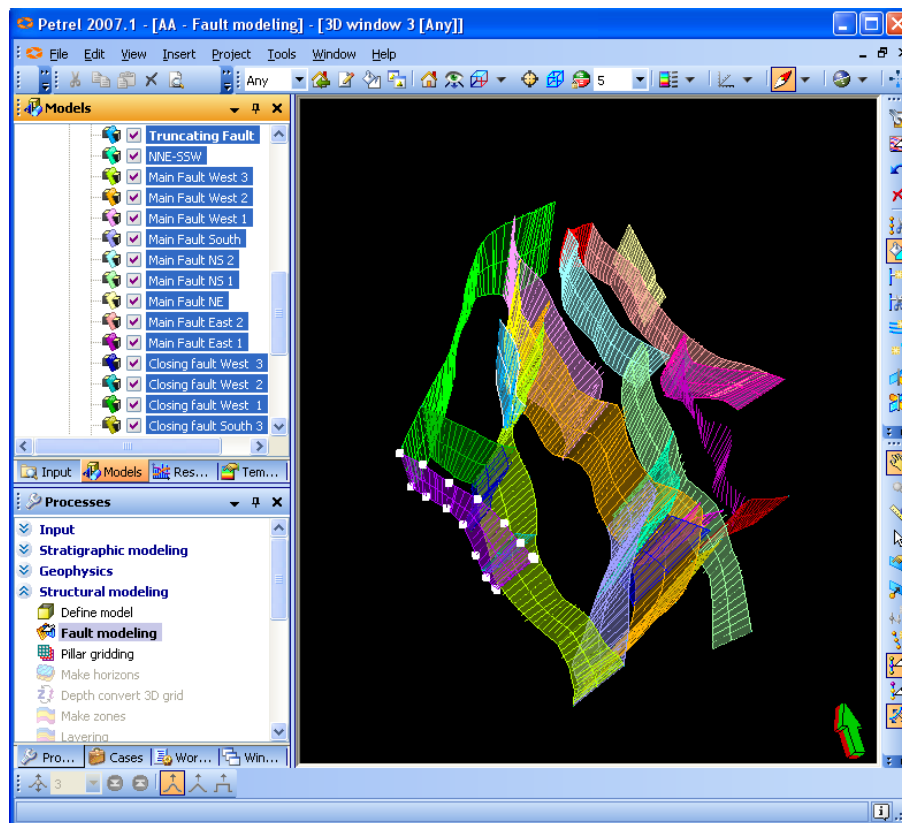

Fig. 11.35: All faults sticks after conversion displayed in a 3D window
3. All new faults will be added under the Fault Model folder in the model (in the Models Pane). See Fig.11.35.